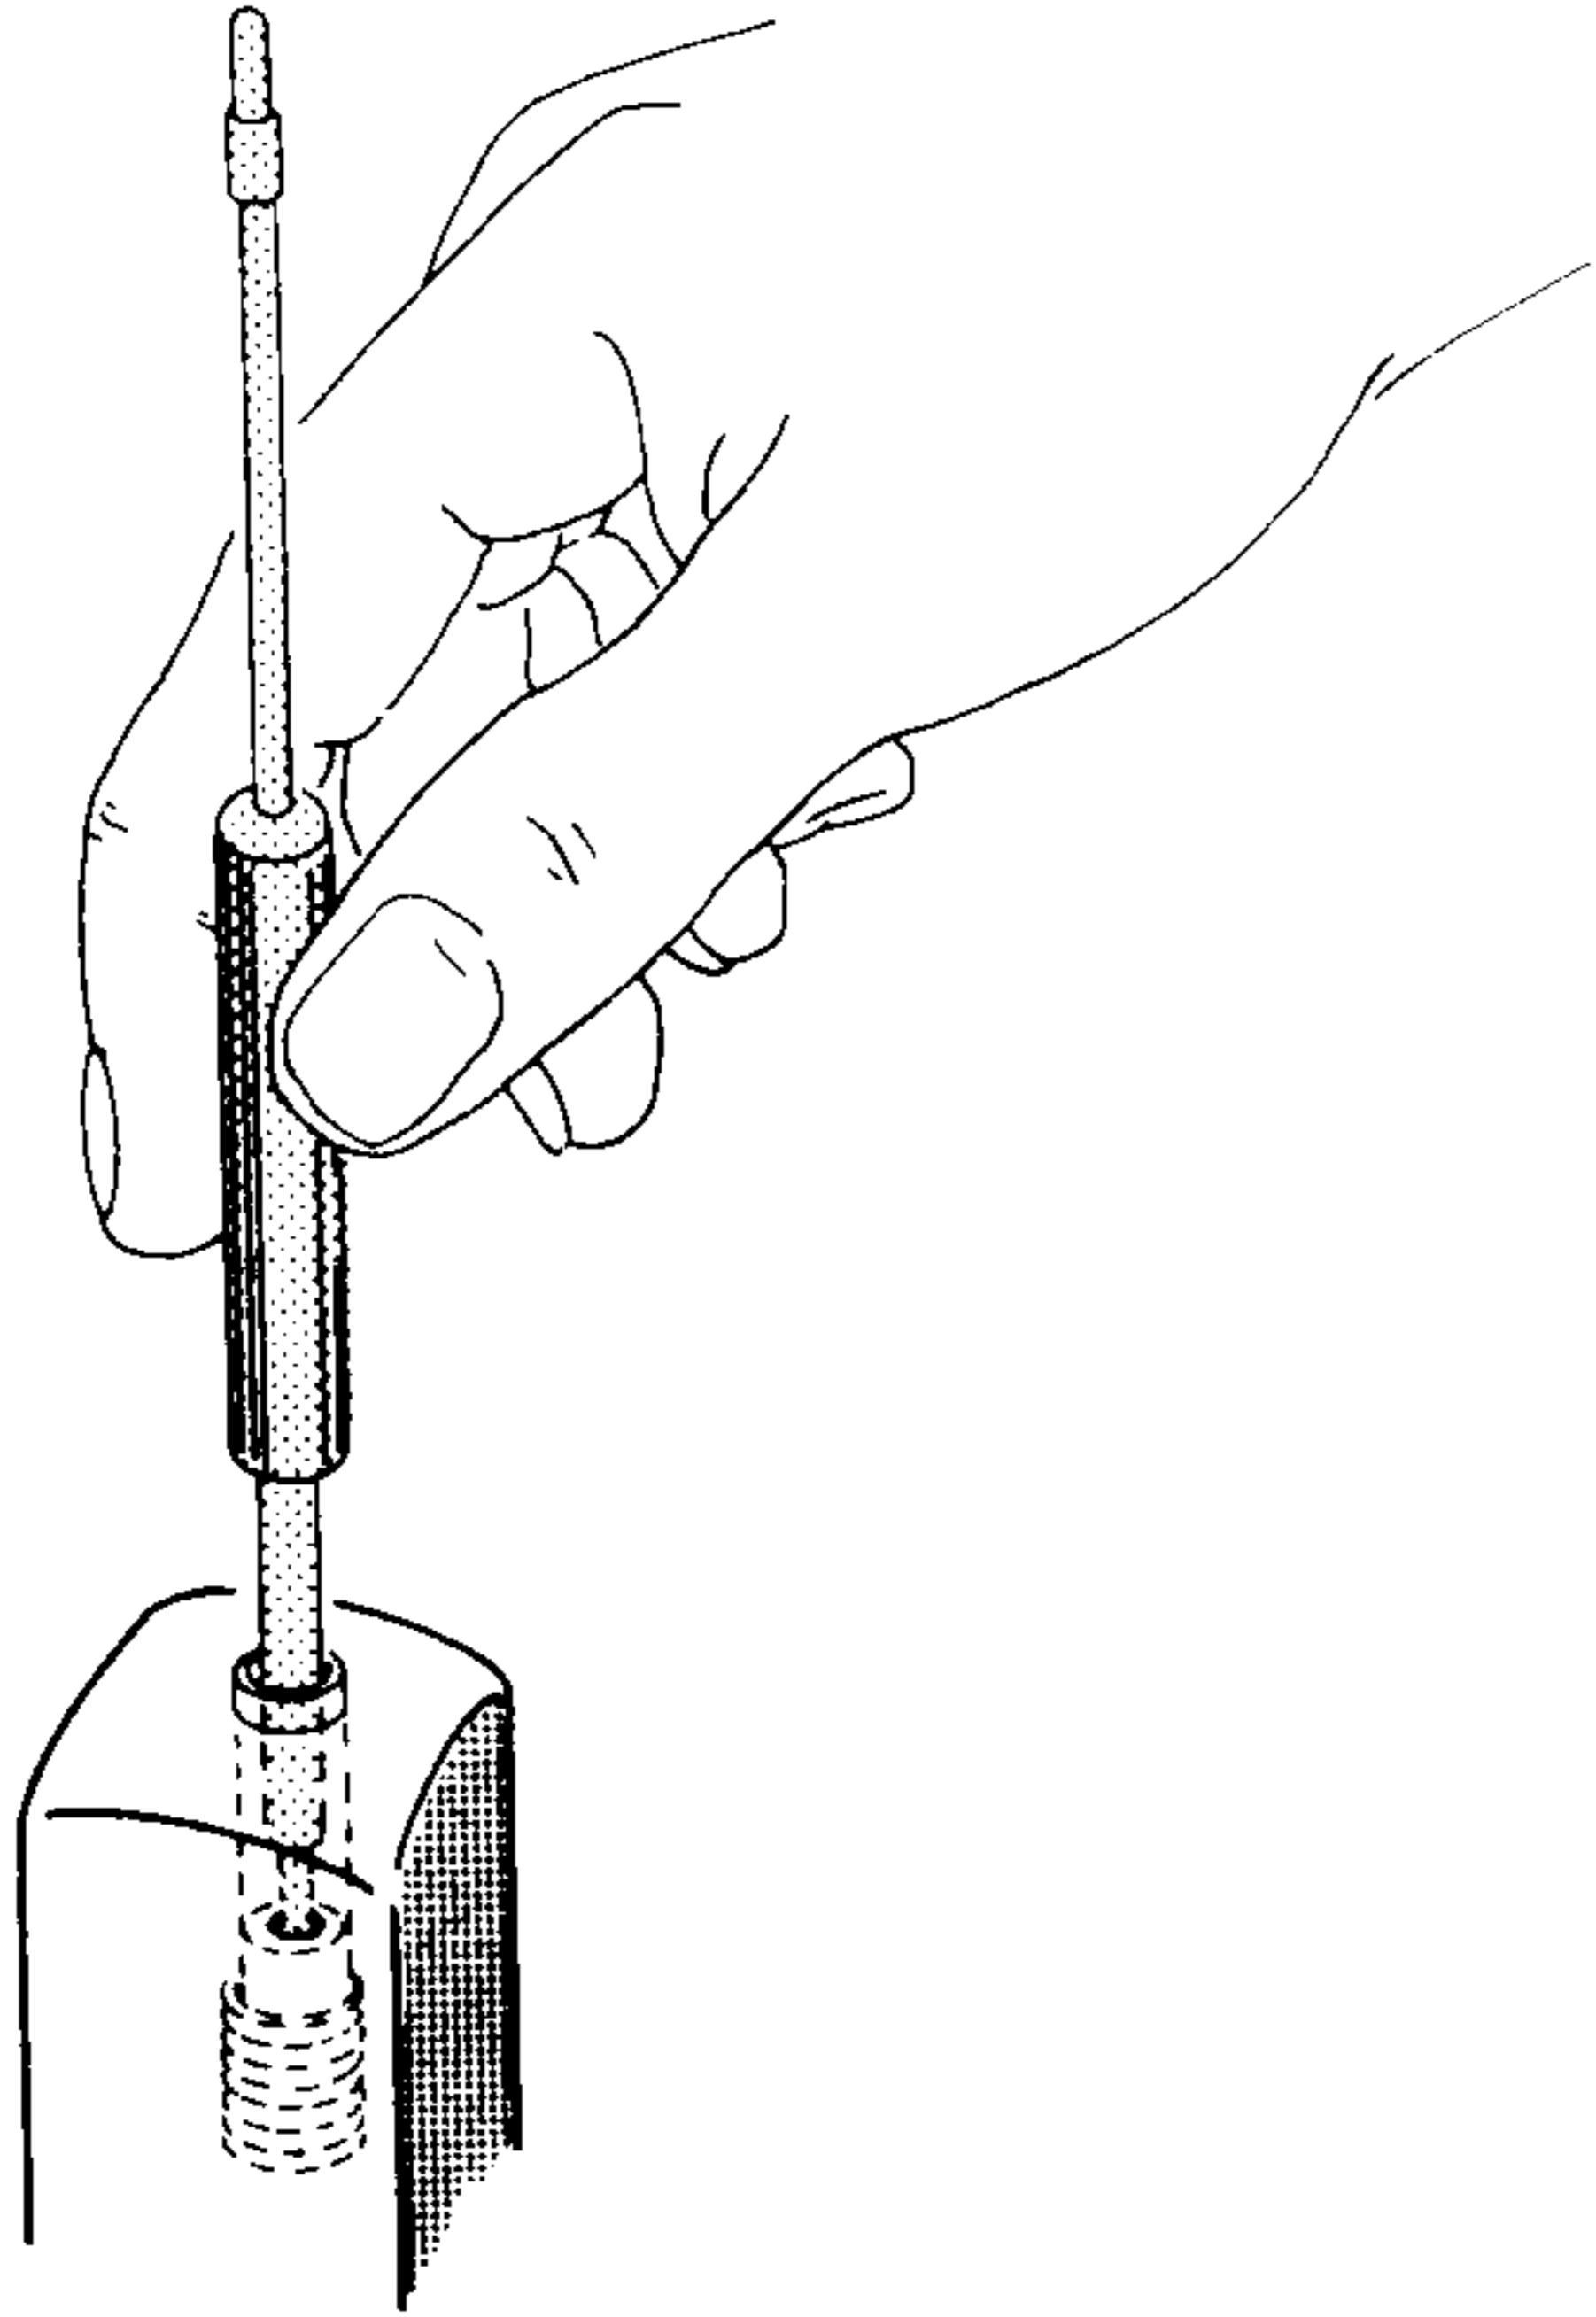

Figure 8-1
- ( ) Refer to Figure 8-1 and insert the alignment tool in coil L8. Be sure the hexagonal end of the tool engages the hexagonal hole in the coil. Rotate the tool in both directions until you secure a peak indication on the VTVM, which should be more than -1.5 VDC. Then turn the coil slug 1/8 turn counterclockwise.